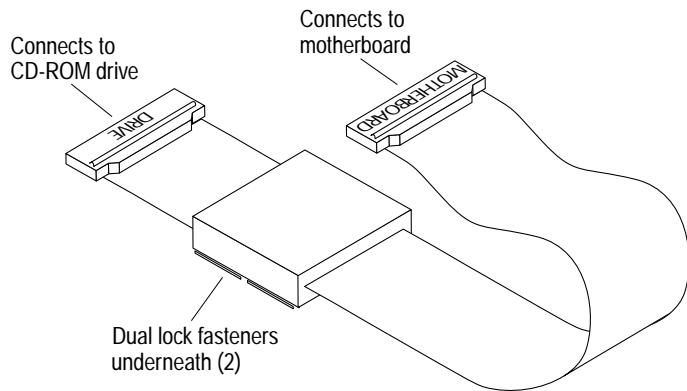

**FIGURE 6** Disk Drive EMI Clip Locations
4. Attach the disk drive EMI clips to the locations shown in FIGURE 6.